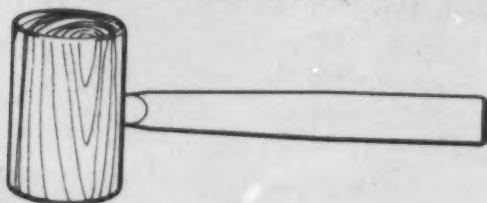
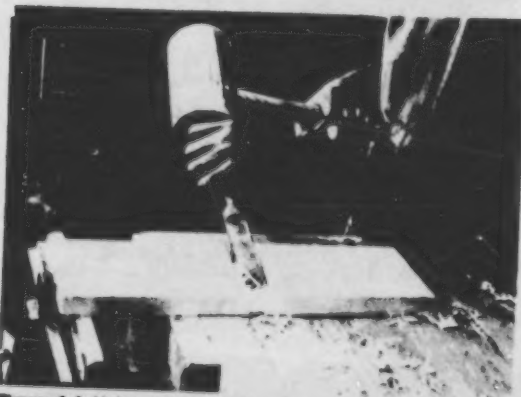

Figure 6-5 A wooden mallet
Figure 6-6 Using a chisel and mallet
- a. Use a **wooden mallet** (Figure 6-5) to lightly hit the end of the chisel's handle and drive the cutting edge through the workpiece. Hold the handle of the chisel *loosely* in one hand and hold the mallet in your other hand as shown in Figure 6-6.